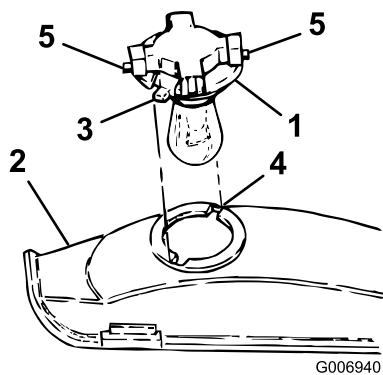

Figure 52
3. Rotate the bulb holder 1/4 turn counterclockwise and remove it from the reflector (Figure 52).
- Align the tabs on the bulb holder (Figure 52) with the slots in the reflector, insert the bulb holder into the reflector, and rotate it 1/4 turn clockwise until it stops.